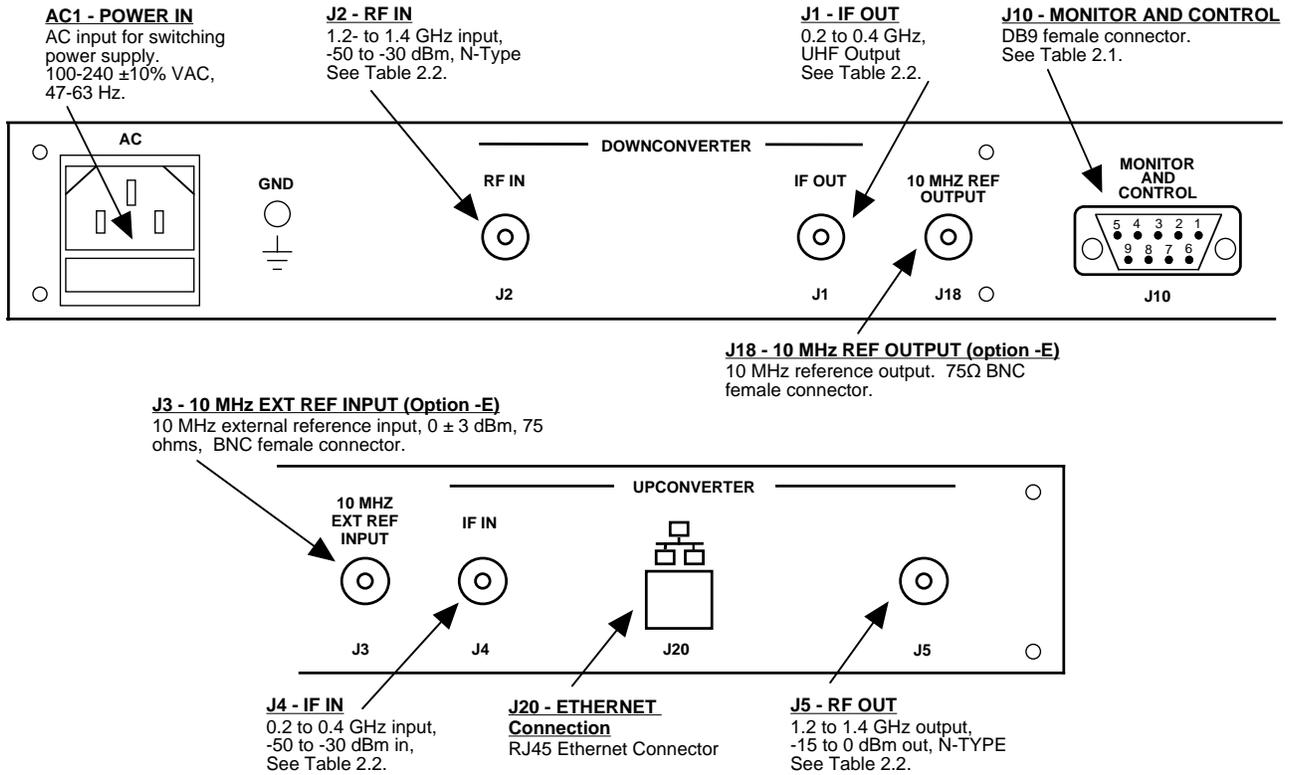

Figure 2.1 Model 2017-14 Rear Panel I/O's
- 1.) Connect a -40 dBm to -25 dBm signal to IF In, J4 (Figure 2.1).
- 1.) Connect a -50 dBm to -30 dBm signal to RF In, J2 (Figure 2.1).